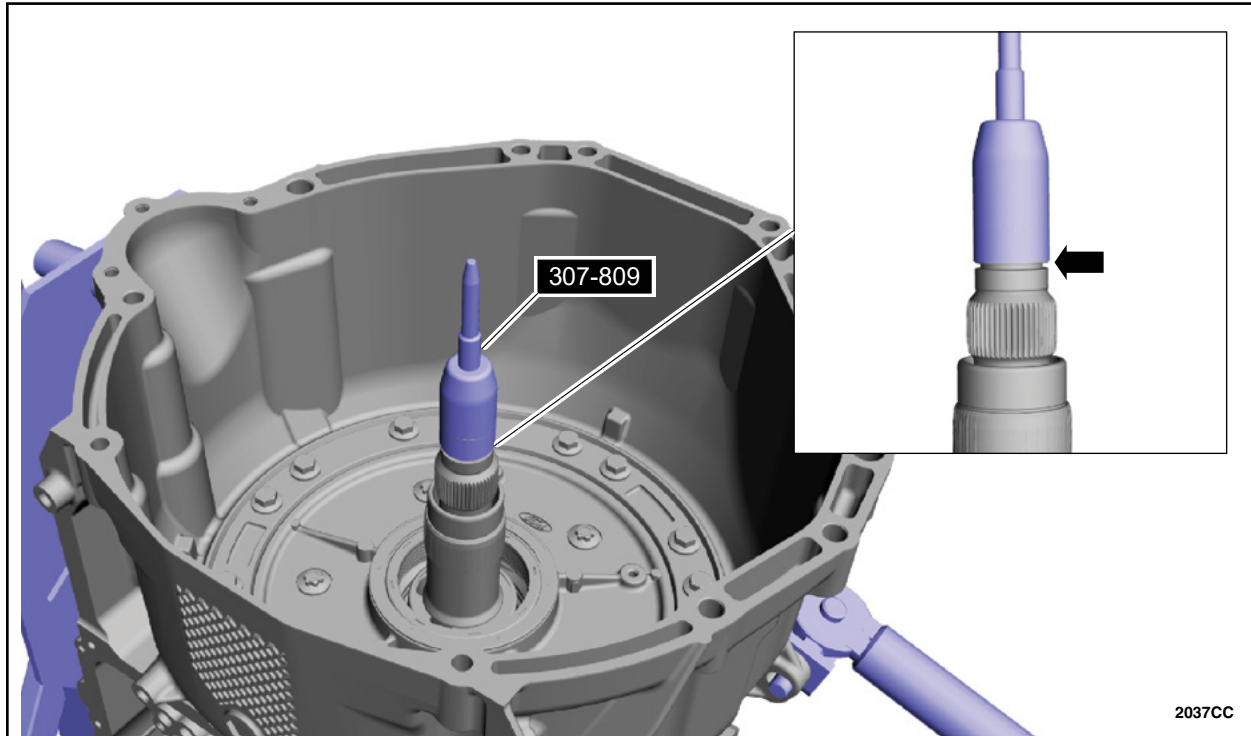

**FIGURE 20**
23. Install special tool 307-811 to size the 7 Teflon® seals to the input shaft. See Figure 20.